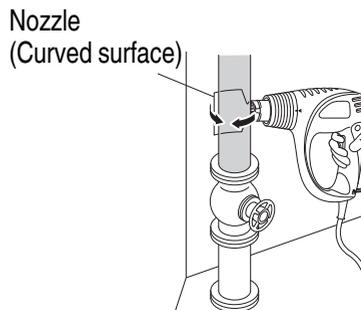

Fig. 10
6. Defrosting water pipes (**Fig. 10**)